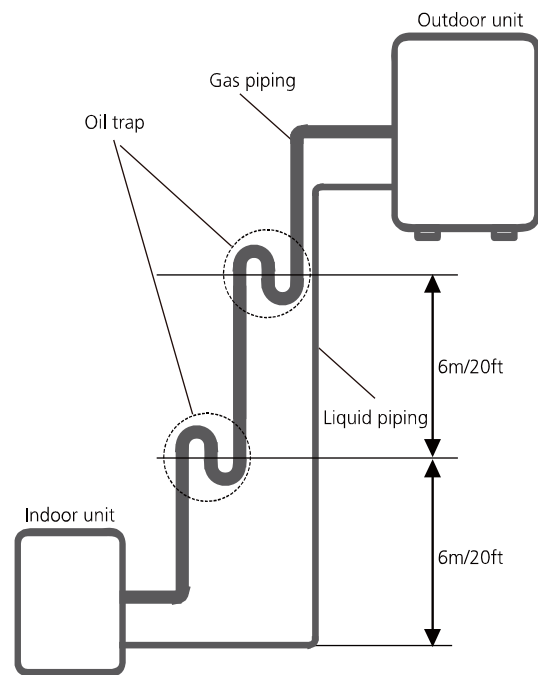

Fig. 7.4
-It is recommended that vertical suction risers not be upsized. Proper oil return to the compressor should be maintained with suction gas velocity. If velocities drop below 7.62m/s (1500fpm (feet per minute)), oil return will be decreased. An oil trap should be installed every 6m (20ft) of vertical suction line riser. (See Fig. 7.4)